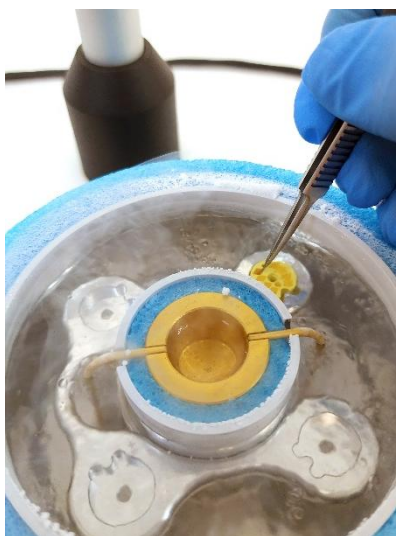

Figure 14: Movement of plunged grid into empty grid box slot
STEP 15. Carefully move the grid into a free grid box slot without the grid rising more than a few millimeters above the liquid nitrogen-air interface (see Figure 14). Once inside a free grid box slot, open the tweezers to allow the grid to rest inside the slot.